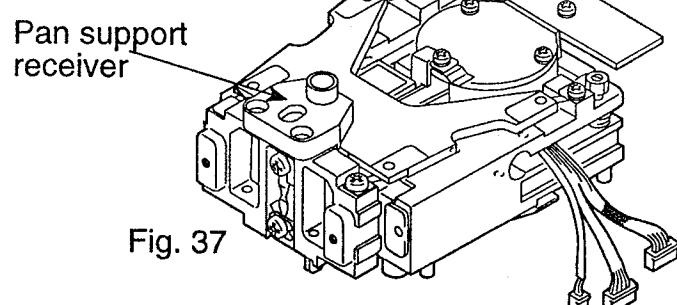

Fig. 37
Step 15. Install the pan support receiver (Fig 37)